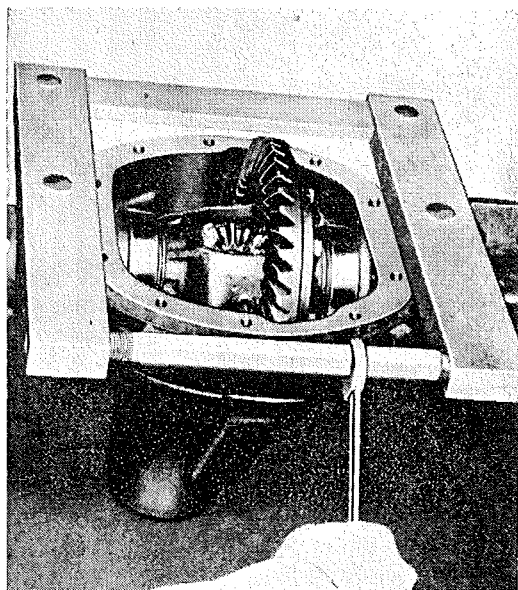

FIG. 139—DIFFERENTIAL CARRIER SPREADER
a. Remove the axle shafts (28). Refer to Par. M-3 or M-4 for rear axles and Section L for front axles.
b. Remove the housing cover (36) and four screws (1) holding the two differential side bearing caps (2) in position. Make sure there are matching letters or other marks on the caps and the housing so that each cap can be reinstalled in the same position and location from which it is removed.
c. It is necessary to spread the carrier as the differential bearing has initial preload. Use Housing Spreader, Tool W-129, as shown in Fig. 139 to